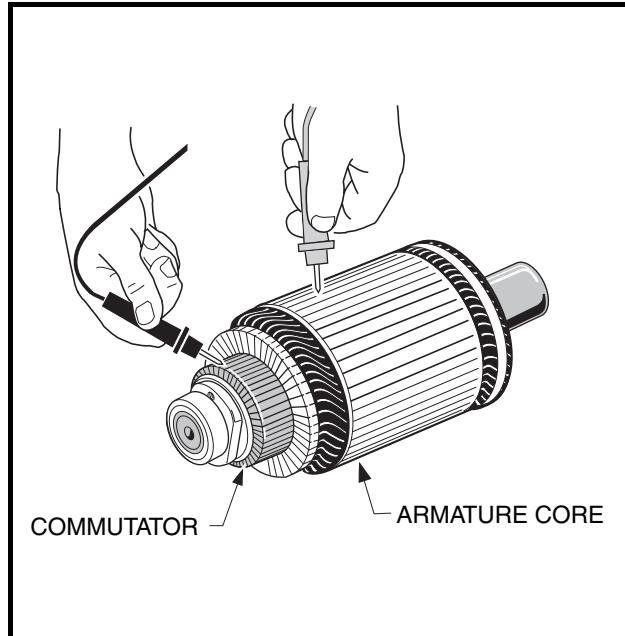

Figure 26-6 Armature Test
1. With a multimeter set to 200 ohms, place one probe on the commutator and the other on the armature core. The multimeter should indicate no continuity (**Figure 26-6, Page 26-6**). If the reading is incorrect, replace the armature.